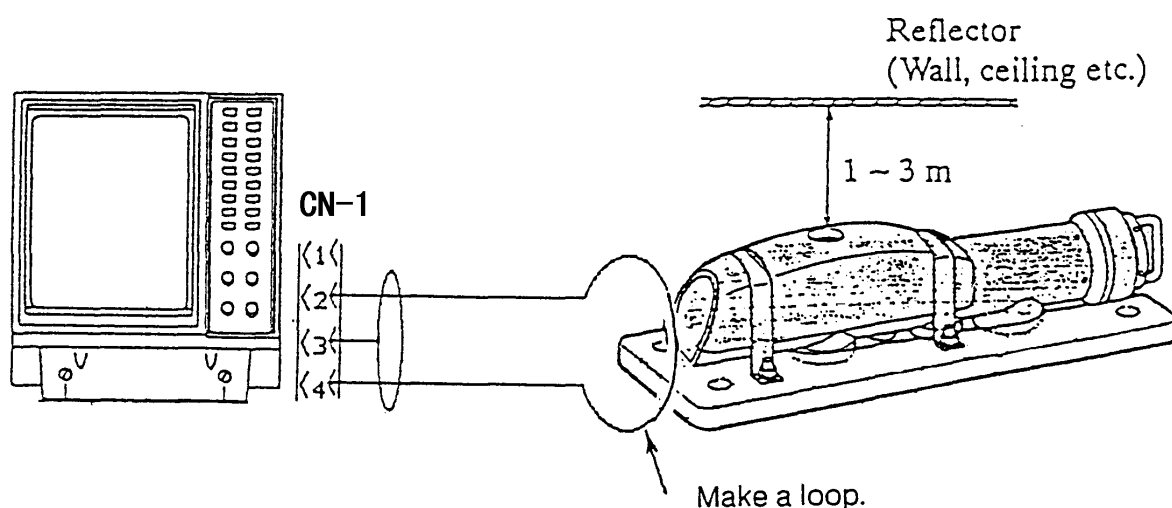

Fig. 3.3 Testing function in Air without Paravane Receiver
18. Adjust the R5 so that the "Lissajous figure" obtained on the oscilloscope becomes stable, as shown in figure 3.3.